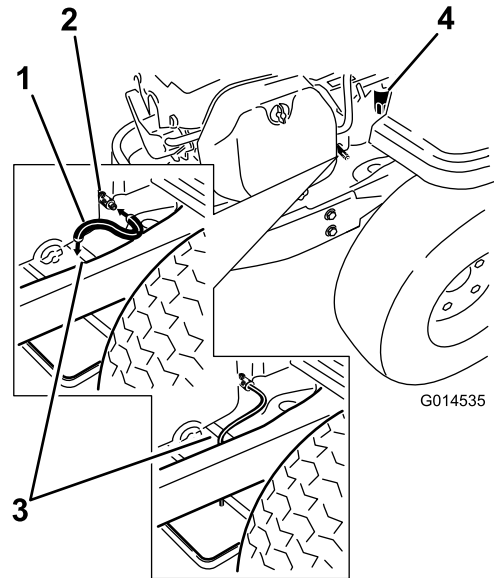

Figure 29
- Clean the area around the drain valve and on the machine frame. Locate the oil drain hose and slide it over the drain valve (Figure 29).
- Place the opposite end of the oil drain hose over the end of the frame (Figure 29).